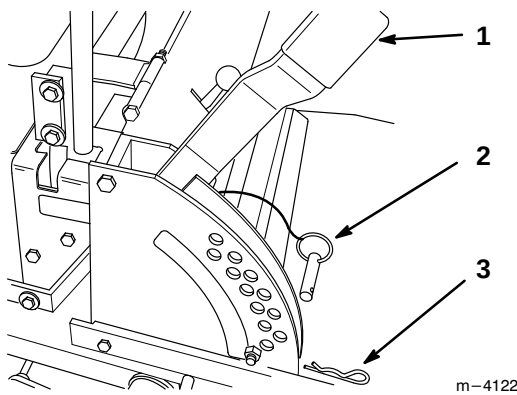

Figure 12
1. Raise the height-of-cut lever to the transport position (also the 4-1/2" (114 mm) cutting height position) (Fig. 12).
2. To adjust, remove hairpin cotter and clevis pin from height-of-cut bracket (Fig. 12).
3. Select hole in height-of-cut bracket corresponding to the height-of-cut desired. Lift handle to transport position, insert clevis pin (Fig. 12).
4. Secure clevis pin with hairpin cotter (Fig. 12).